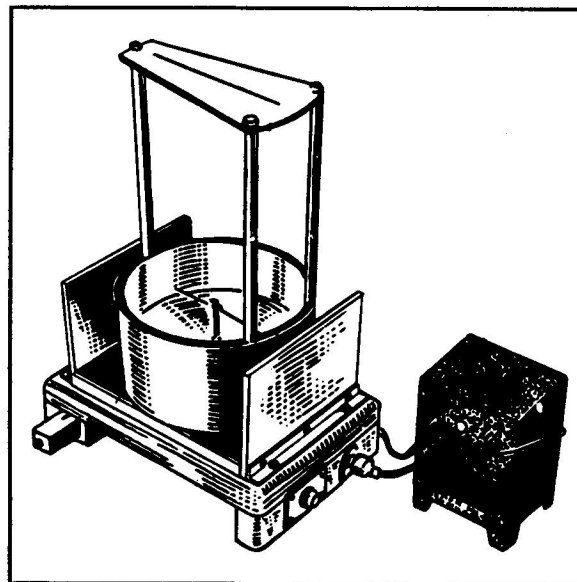

Figure 28 — Field Stand
(4) Check the accuracy of the card assembly in an artificial magnetic field by using an artificial magnetic field stand. (See figures 28, 40 and 41.)